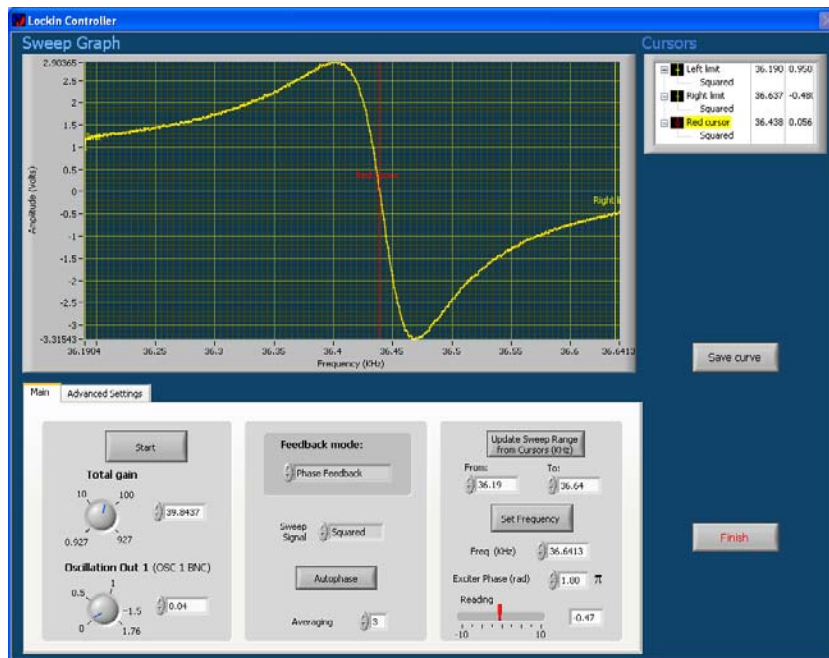

Figure 43: Obtaining the Phase Curve
A Phase vs. Frequency curve is generated. It should be similar to the graph in Figure 43 below, when Autophase is functioning correctly.
3. Move the red vertical cursor along the X axis (the frequency axis) so that it intersects the graph at the vertical center of the curve (see Figure 43 above.).
The amplitude of the squared signal should be zero at the center of the curve, as in Figure 43 above. Should you find that the zero is not at the center, carry out the following adjustment: